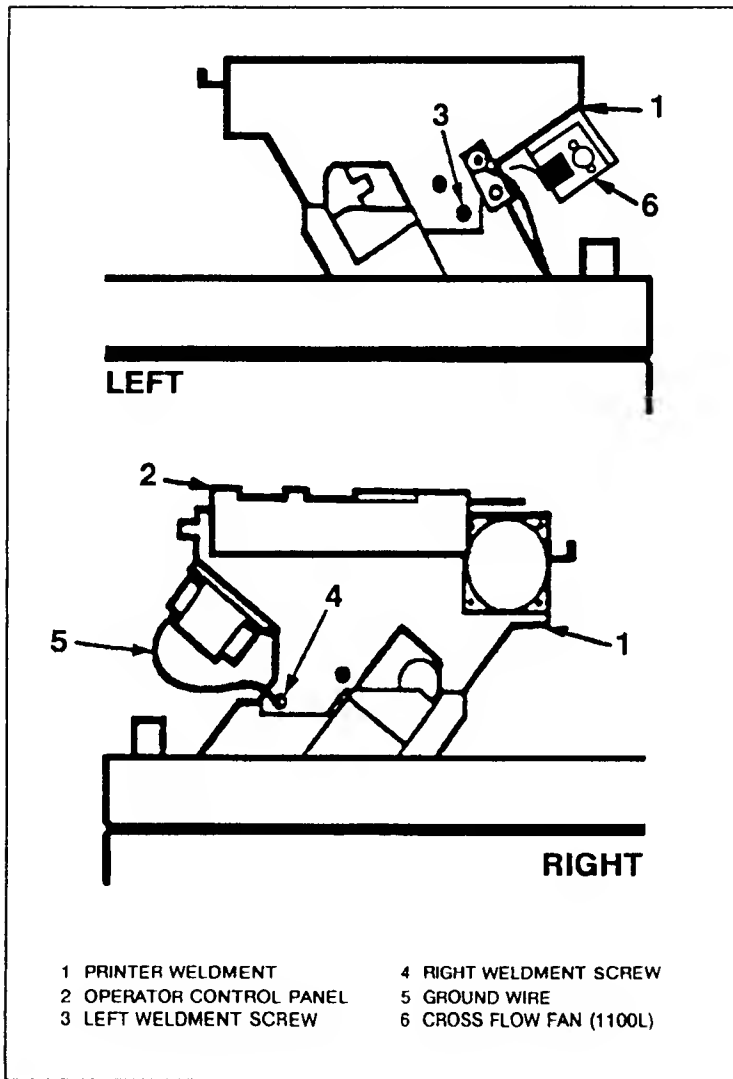

Figure 6-14. Printer Weldment (End Views)
- e. Remove the screws, one at each end of the printer weldment (see Figure 6-14).